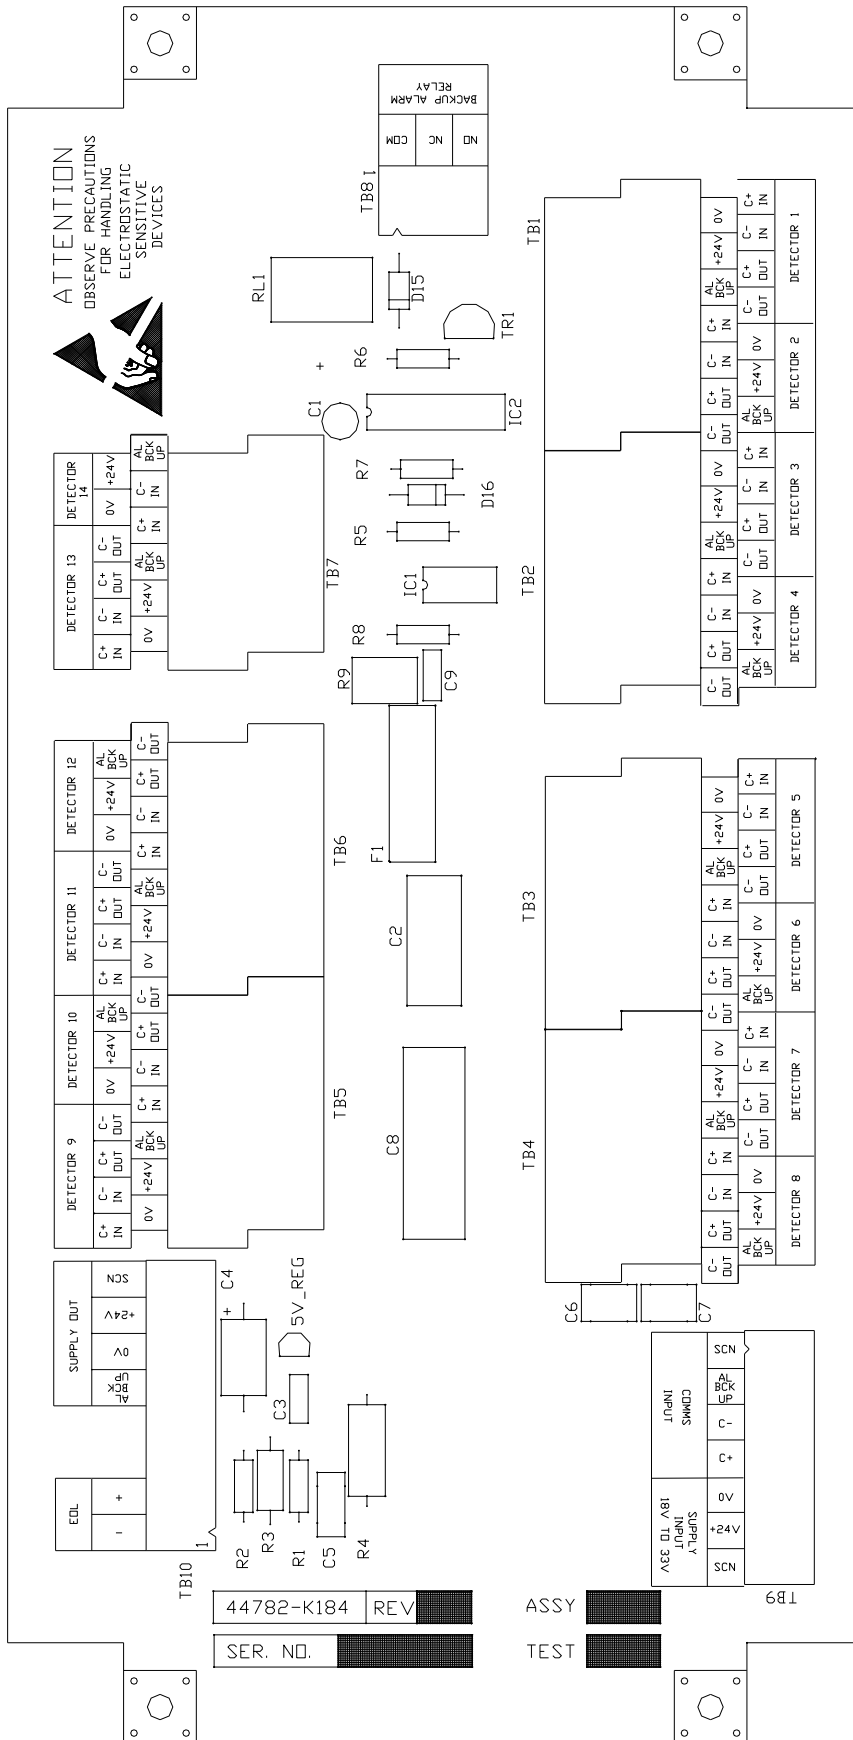

Figure 63 Junction Box PCB
3.10.1 Junction Box PCB Replacement Part No. 1-44782-K184 (refer to Figure 63)